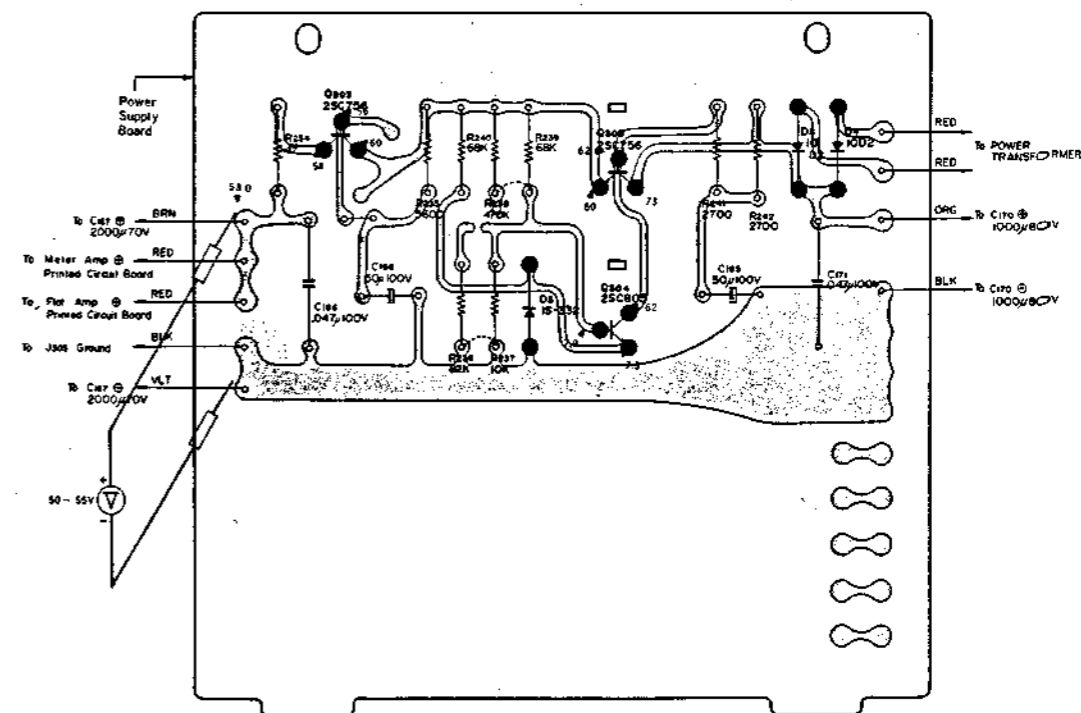

Fig. 3-3. B+ Voltage Adjustment Test Set-up
- Step 1: Connect the DC voltmeter between B+ and ground. See Fig. 3-3.